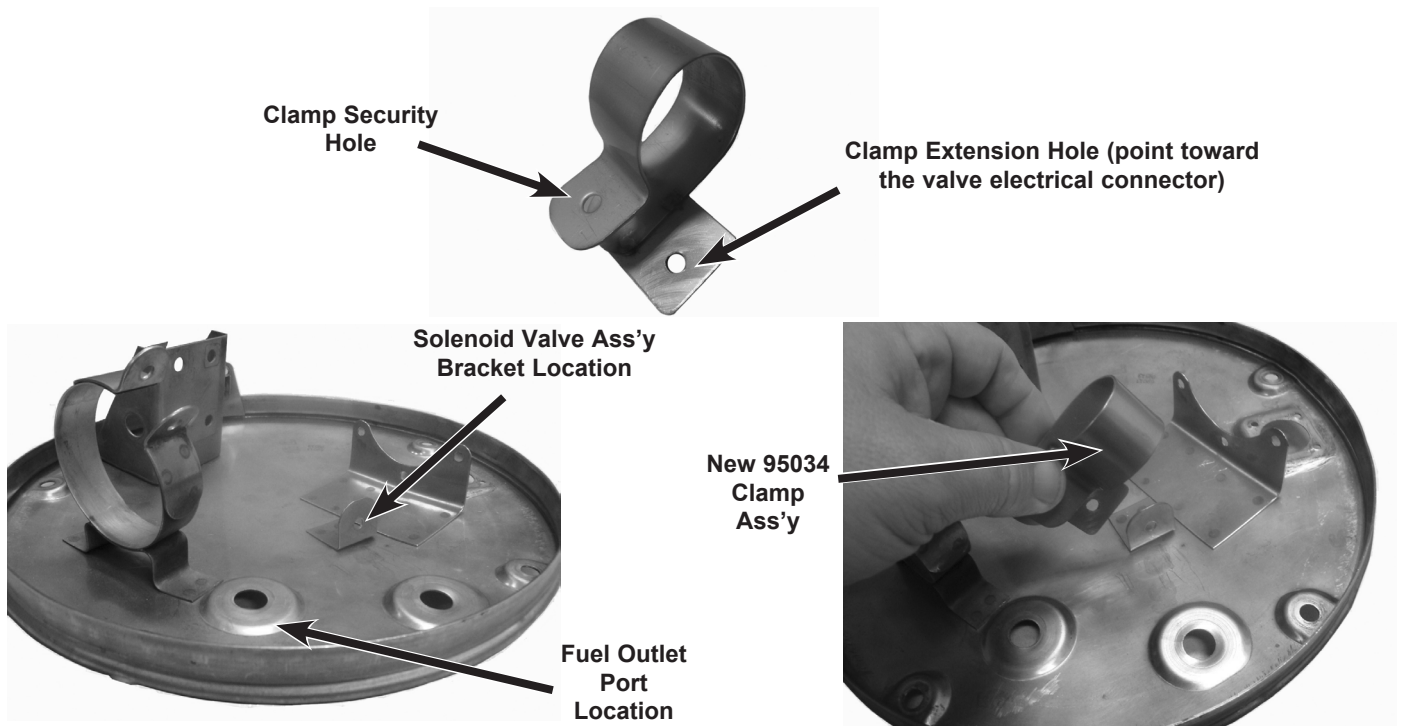

Figure A-3 - New Clamp & Location, P/N 95034 (for P/N 10C67-1)
- (5) Disconnect the B-nuts and remove the fuel tube (12).
- (6) Hold the union (49) using an open-end wrench and remove the nut (45), shroud (46), and gasket (47) on the face of the base assembly. Discard the gasket.
- (7) Using an appropriate tool, remove the nut, washer, and screw releasing the old 59C39 clamp (53) and discard the clamp and hardware.
- (8) Note the position of the Solenoid Valve Assembly (52) for later reassembly. Slide the union (49) which is attached to the Solenoid Valve out of the base assembly. Remove and discard the gasket (47) from the union assembly. Retain flat washer (48) for later re-installation. Properly discard the old Solenoid Valve Assembly.
- (a) If performing an overhaul, continue with the remaining steps of disassembly in the 93C35 Overhaul Manual. When beginning the assembly for overhaul, perform steps 3.B(9) through 3.B(16) before continuing the normal overhaul reassembly and test.
- (9) Slide the new Clamp P/N 95034 over the new Solenoid Valve Assembly with the clamp extension hole pointing towards the electrical connector. Insert new Screw P/N MS35266-63 through the clamp security hole. Place the Washer P/N AN960-10L and the Nut P/N MS21044N3 on the screw snug but do not tighten. (Refer to Figures A-3 & A-4.)
- (11) Position the new Clamp Assembly so that the hole in the Solenoid Valve Assembly bracket and the clamp extension hole aligns and insert the new Screw P/N MS35266-63 through the hole. Place the Washer P/N AN960-10L and the Nut P/N MS21044N3 on the screw snug but do not tighten. (Refer to Figures A-3 & A-4.)